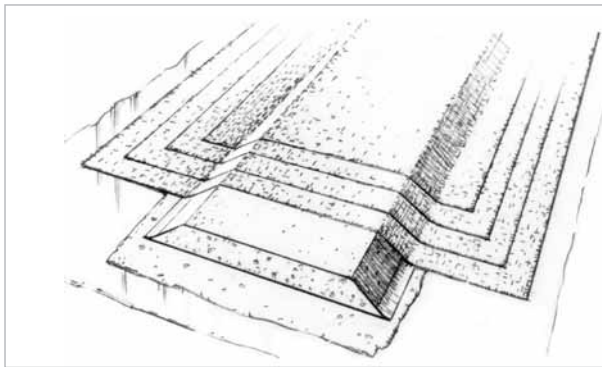

Figure 3-6 End-grained balsa or high-density foam core material is useful for reinforcing large panel areas.
3. Prepare the core material and fabric. Cut the core material to size. Round the corners and bevel the edges of the core material to reduce stress concentrations. Cut four or five pieces of fiberglass cloth, each piece an inch or two shorter on each side than the one before. The smallest piece of fabric should overlap the core material by 2" (5cm) on each side (*Figure 3-6*).